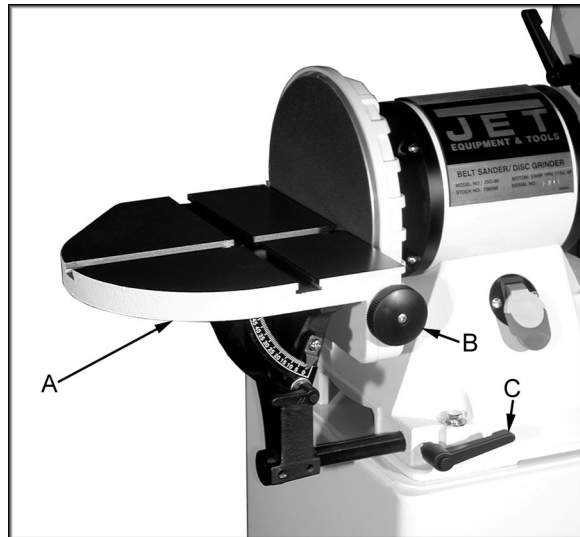

Figure 14
- Loosen the handle (C, Fig. 14) and remove the table assembly (A, Fig. 14).
- Turn the knob (B, Fig. 14) and swing open the cover.